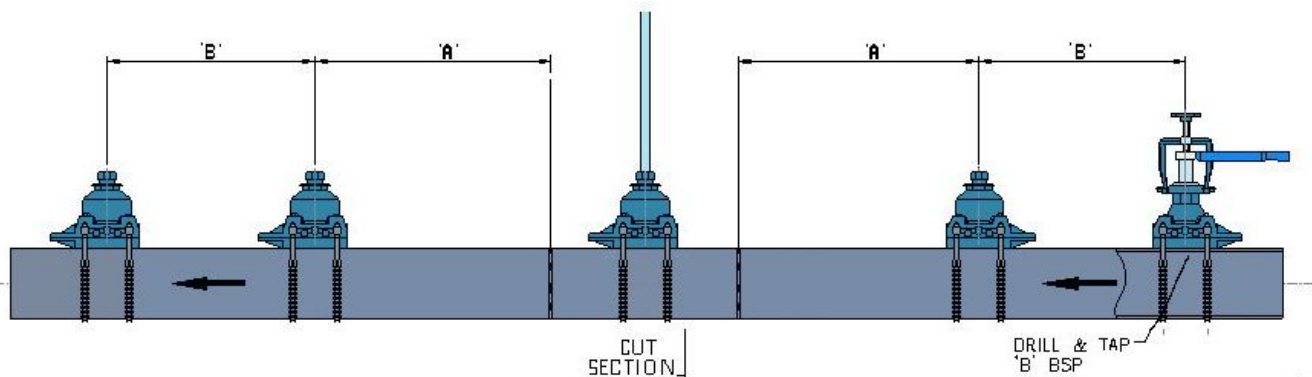

Figure 72 - Drilling Separation Distances and Tapping Sizes
11. Ref to Figure 72 and Table 32 and mark the positions of the drillings on the main.